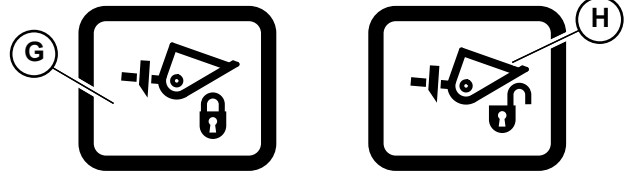

Fig. 115 – Quick Attachment System Control Buttons
- With the engine running, press and hold hitch unlock button (H, Fig. 115) until locking pins (Z, Fig. 116) are fully retracted to the inside of the hitch.